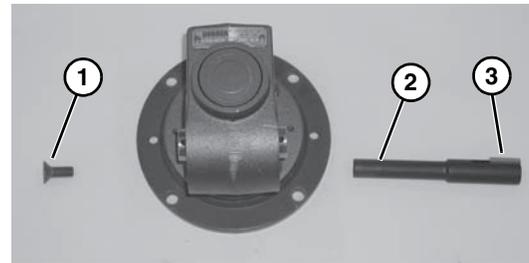

Figure 20
- Remove M10 shaft locking screw (**Figure 20, item 1**), remove gear reducer output shaft (**Figure 20, item 2**) and key (**Figure 20, item 3**).
*Output shaft (**Figure 20, item 2**) is held in Gear Reducer with a tapered press fit. Removal may require use of an arbor press.*
- Insert the new shaft with key (**Figure 20, item 3**) into new gear reducer. Tighten M10 shaft locking screw (**Figure 20, item 1**) to 300 in-lbs (34 N-m).